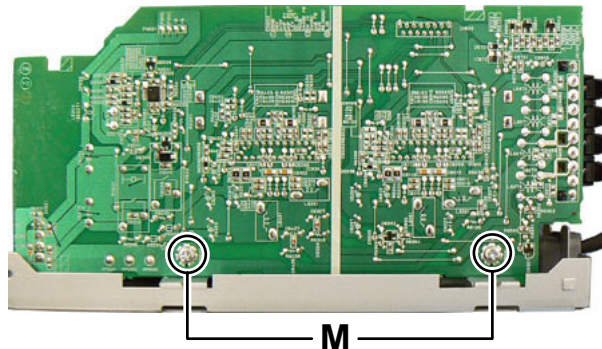

Fig.12
- (2) Remove the two screws **M** attaching the Amp board. (See Fig.12)